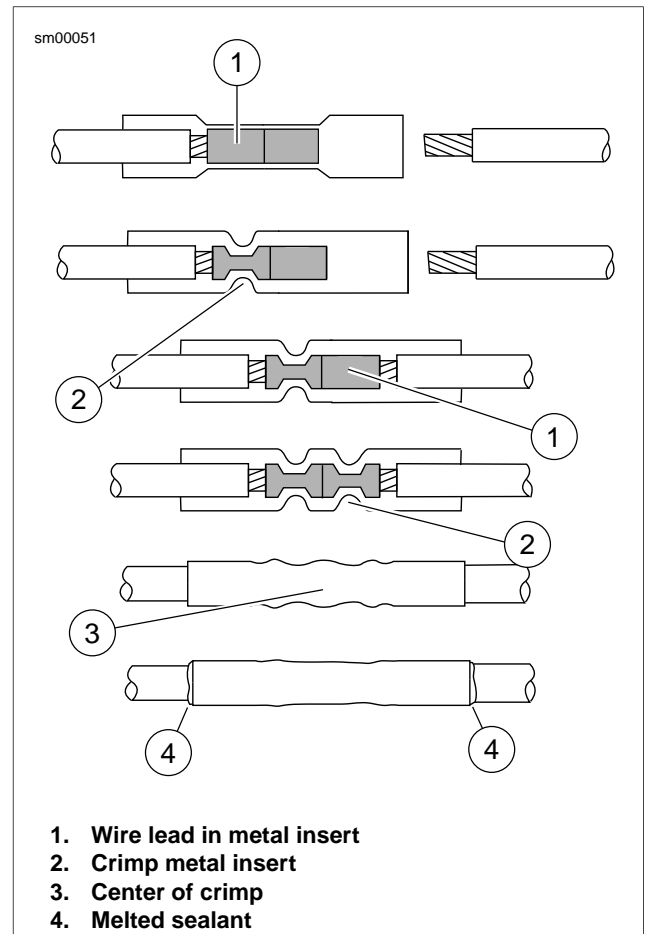

Figure A-55. Sealed Splice Connector
See Figure A-55. The connector is crimped twice - one side and then the other.
- See Figure A-55. Feed the stripped end of a wire into the connector until the wire stops inside the metal insert (1).
- Squeeze the handles tightly closed to crimp the lead in the insert (2). The tool automatically opens when the crimping is complete.
- Slide the connector to the other half of the metal insert. Insert the stripped wire lead (1) until it stops, and crimp the lead in the insert (2).
See Figure A-55. Allow the splice to cool and inspect the seal. The insulation should appear smooth and cylindrical. Melted sealant will have extruded out the ends (4) of the insulation.